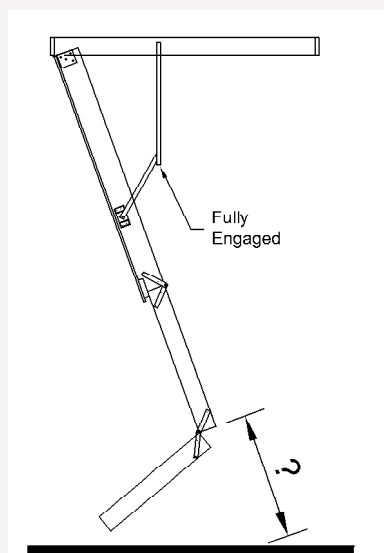

fig 16
11. With the top and middle sections of the stair open and the bottom section tucked in behind, measure the distance from the bottom of the middle section, to the floor at the same angle as the stairs (figure 16). Do this on both sides.